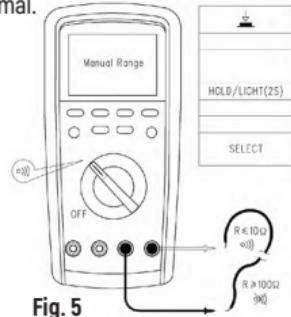

Fig. 5
3. Continuity measurement (see Fig. 5)